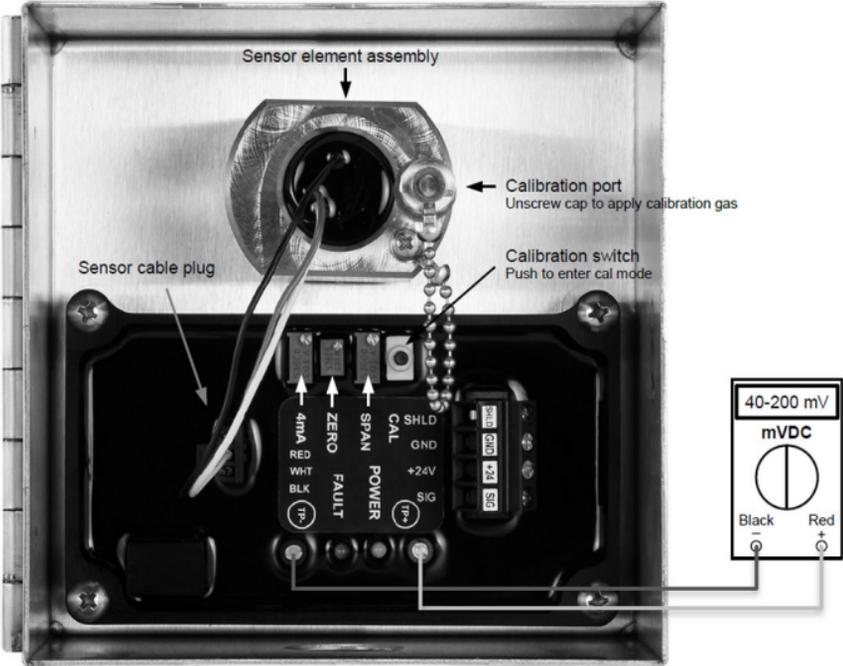

Figure 3: Transmitter and sensor assembly
The GG-VL2-NH3 sensor comes factory calibrated and should require only minimal adjustments after installation. Calibration should be performed every six months. There are two pots on the preamp that are used for calibration (see Figure 3).
- Adjust the zero pot until the sensor outputs 40 mVdc from Test [-] to Test [+] (see **Figure 3**).
Span Calibration: Do not adjust the span pot without certified calibration gas! If span adjustment is required, use the following procedure (see Figure 3):
To replace the sensor, refer to **Figure 3** and the following procedure.